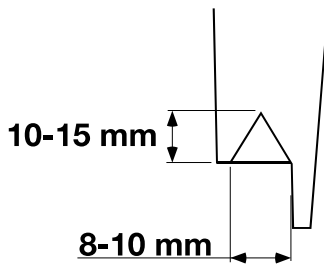

Fig 14.
- d Fit the pre-cut nozzle. ⇒ Fig 14. \(□ 1-11\).